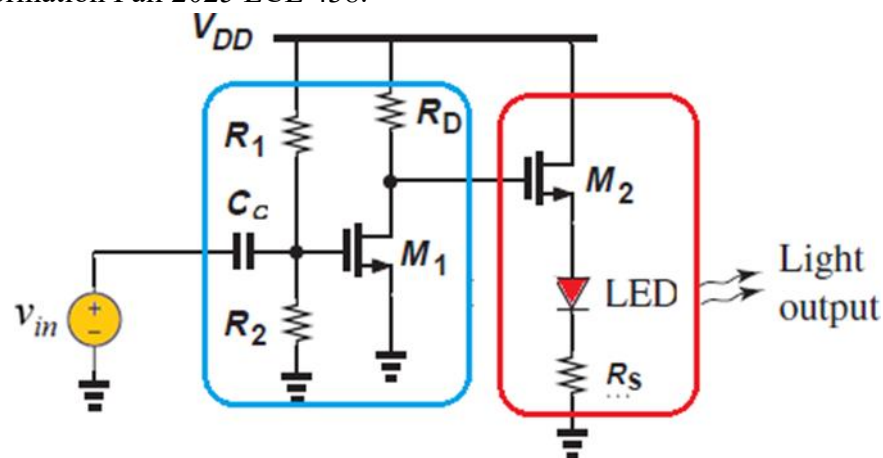

Figure 2: Two Stage MOSFET LED driver (encircled in blue is stage 1 and encircled in red is stage 2)
The purpose of this lab is to design a two-stage linear MOS amplifier to drive an LED. In order to give you some direction in the design, you will work on the specific circuit shown in Fig 2. Each stage of the amplifier is highlighted for clarity. You will perform some reading and answer the questions that follow so that you have the necessary background material needed to complete the design. The background material is in a file on Canvas under files > Lab > Instructions > Lab 9 Related Information Fall 2025 ECE 438.
- Now identify the topology of each of the two stages of the amplifier in the circuit given in Figure 2. Explain why this combination of stages may be used for driving the LED.